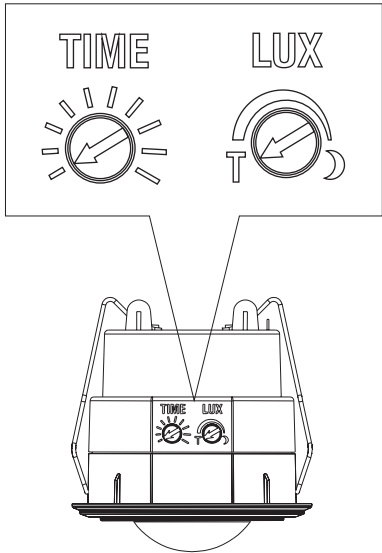

FIG. 8
- Turn the **TIME** control and the **LUX** control counter-clockwise to the edge-the **TEST** position (FIG. 8).